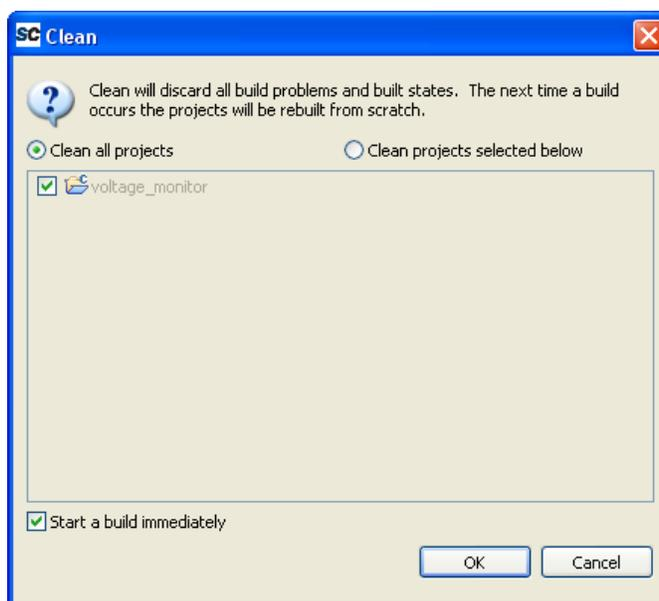

Figure 4-2 · SoftConsole Clean Dialog Box
- Perform a clean build by selecting **Clean** from the **Project** menu. Accept the default settings in the Clean dialog box and click **OK** (Figure 4-2).